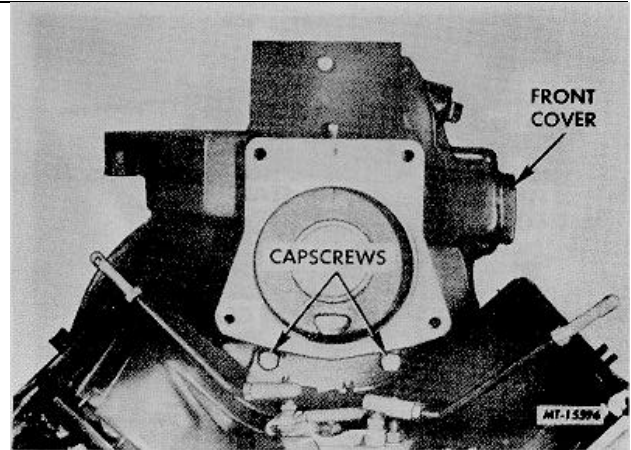

Fig. 65 Location of Nylok Capscrews at Rear of Engine Front Cover
58. Remove two Nylok capscrews and lockwashers from rear of front cover (Figure 65).